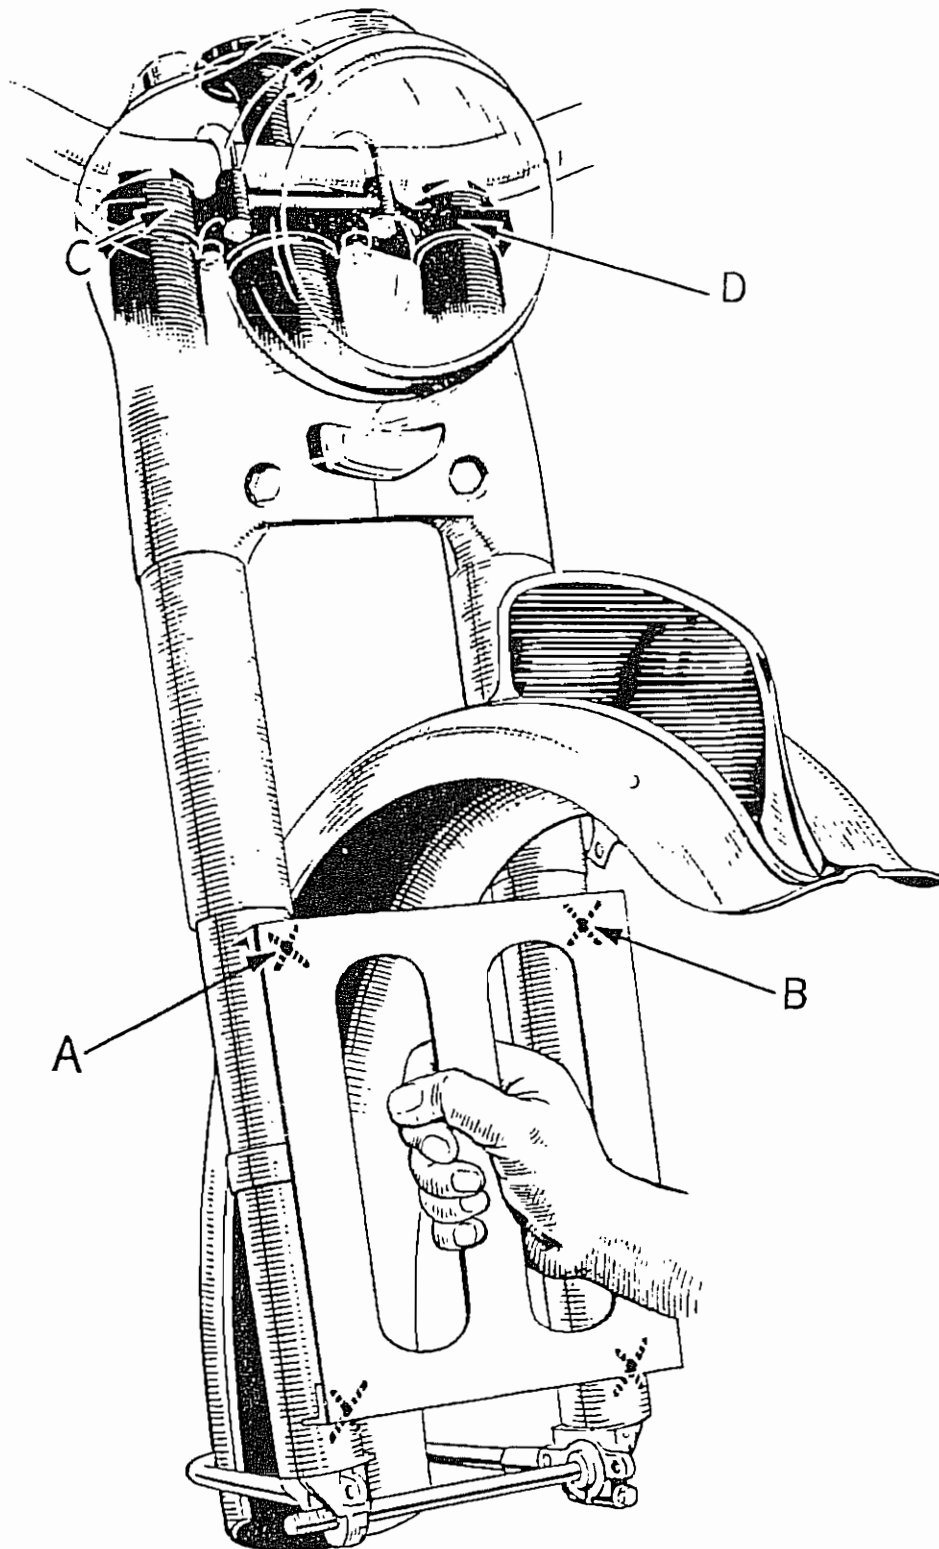

Fig. 41. ALIGNING THE FRONT FORK
### ALIGNMENT INSTRUCTIONS, Fig. 41.
**Fork Crown Pinch Bolts.** Tighten up the pinch bolts. (See Fig. 41 and text describing fork alignment).